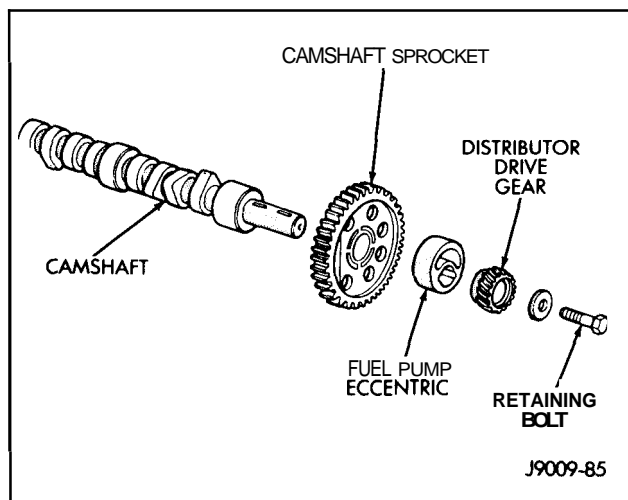

Figure 7-21
16. Remove the retaining bolt from the camshaft (Figure 7-21). Remove the retaining bolt from the crankshaft.
17. Remove the distributor drive gear and fuel pump eccentric from the camshaft (Figure 7-21).